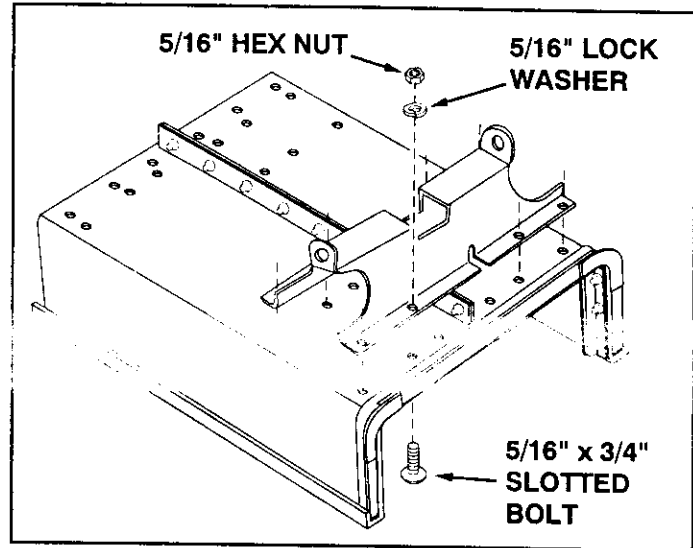

FIGURE 3
- Lower the cart to rest upside down on its top flanges. See figure 3.
- Assemble the wheel support at the rear of the cart using eight 5/16" x 3/4" slotted bolts, 5/16" lock washers and 5/16" hex nuts as shown in figure 3. Bolt heads go on inside of cart. **Tighten.**